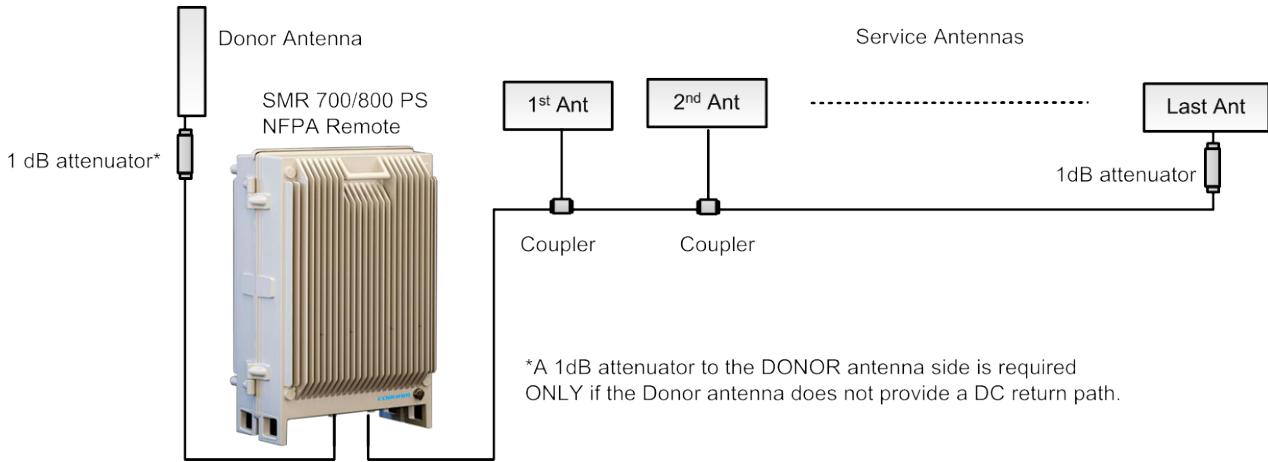

Figure 2-1. Antenna Connections
- The Booster supports monitoring of DC Donor antennas. This requires a DC path through the transmission line (and lightning protector) to the donor antenna. If the donor antenna doesn't provide a DC return path, install a 1dB attenuator at the Donor antenna as illustrated in Figure 2-1.
The Booster supports monitoring of DC Service antennas. This requires a DC path through the transmission line (and lightning protector) to the Service antennas. If the LAST Service antenna doesn't provide a DC return path, install a 1dB attenuator as illustrated in Figure 2-1.